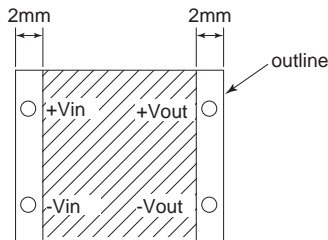

Fig.6.1 Prohibition area of pattern layout
- Avoid placing pattern layout in hatched area in Fig.6.1 to insulate between pattern and power supply.